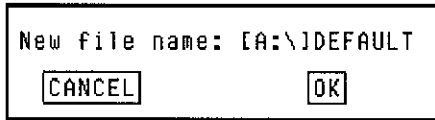

Figure 3-16. Create Window
4. Click on <Create> to display the Create window, Figure 3-16.